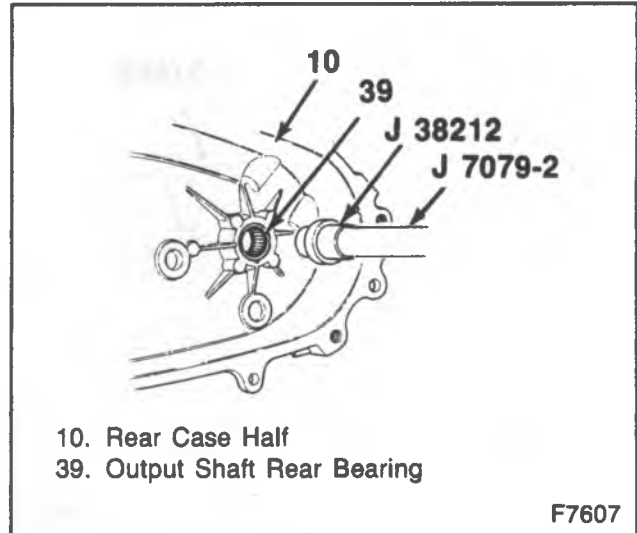

Figure 15—Installing the Output Shaft Rear Bearing
7. Output shaft rear bearing (39) to the rear case half (10) using J 7079-2 Driver Handle and J 38212 Needle Bearing Installer (Figure 15).